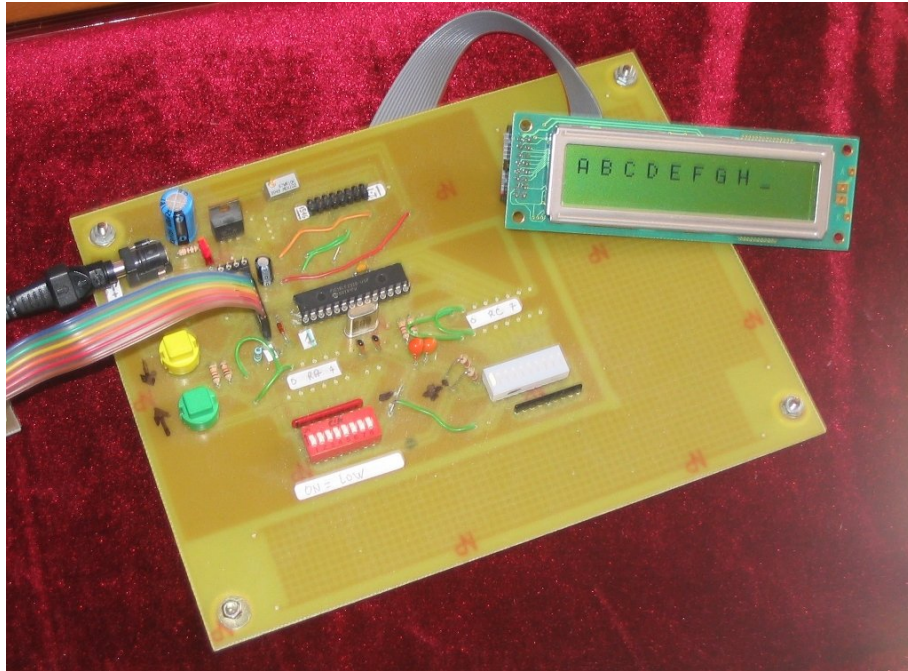

Figure 1: Result of the very first program compiled by `cpik` ever executed
- Any source library is a simple text file, so it can be manually written in assembly language, using a standard text editor (this point is important to bootstrap a totally new development environment). For example, the LCD library has been developped from scratch with a text editor as unique tool, and used to support the very first program2 compiled with `cpik` ever executed (see figure 1).